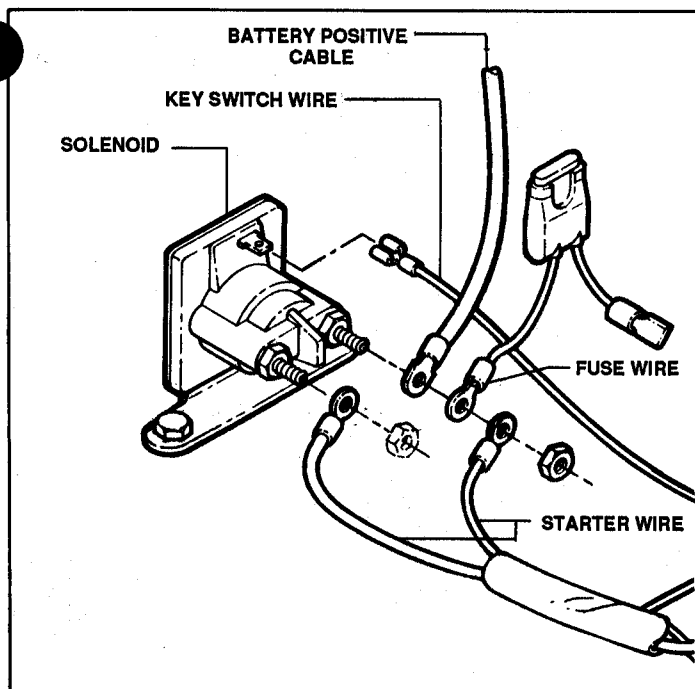

FIGURE 6.12
3. Remove the two (2) solenoid mounting screws and remove solenoid.
4. Replace with new solenoid. See Figure 6.12 for proper wire connections.